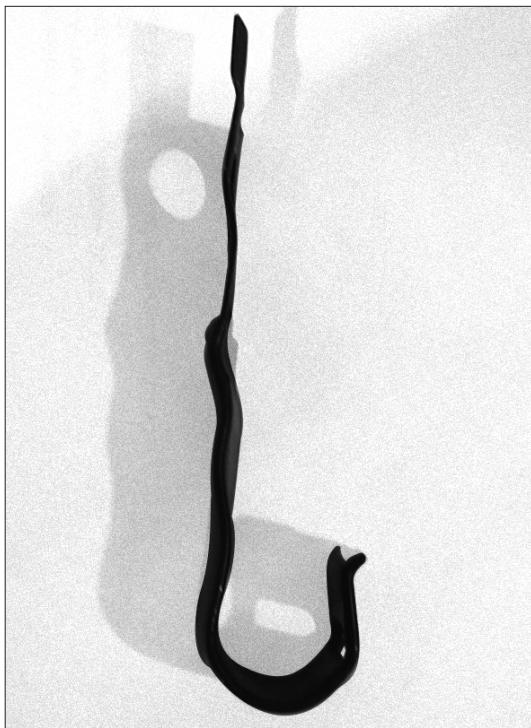

Fig. 11-10
- S. Before reinstalling the ECU there is an A/C line that runs close to the header. When you relocated the Alternator there was a bracket that you removed from the back of the Alternator. This will be used to relocate the A/C line using the supplied hardware. (See Figs. 11-10, 11-11.)